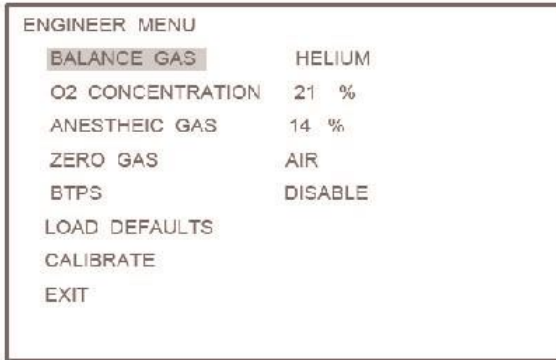

Figure 15
3. To enter the engineer menu again (procedure is same as Appendix 2, Figure 15), to move highlight onto CALIBRATE, then to press ENTER button to enter the next menu.